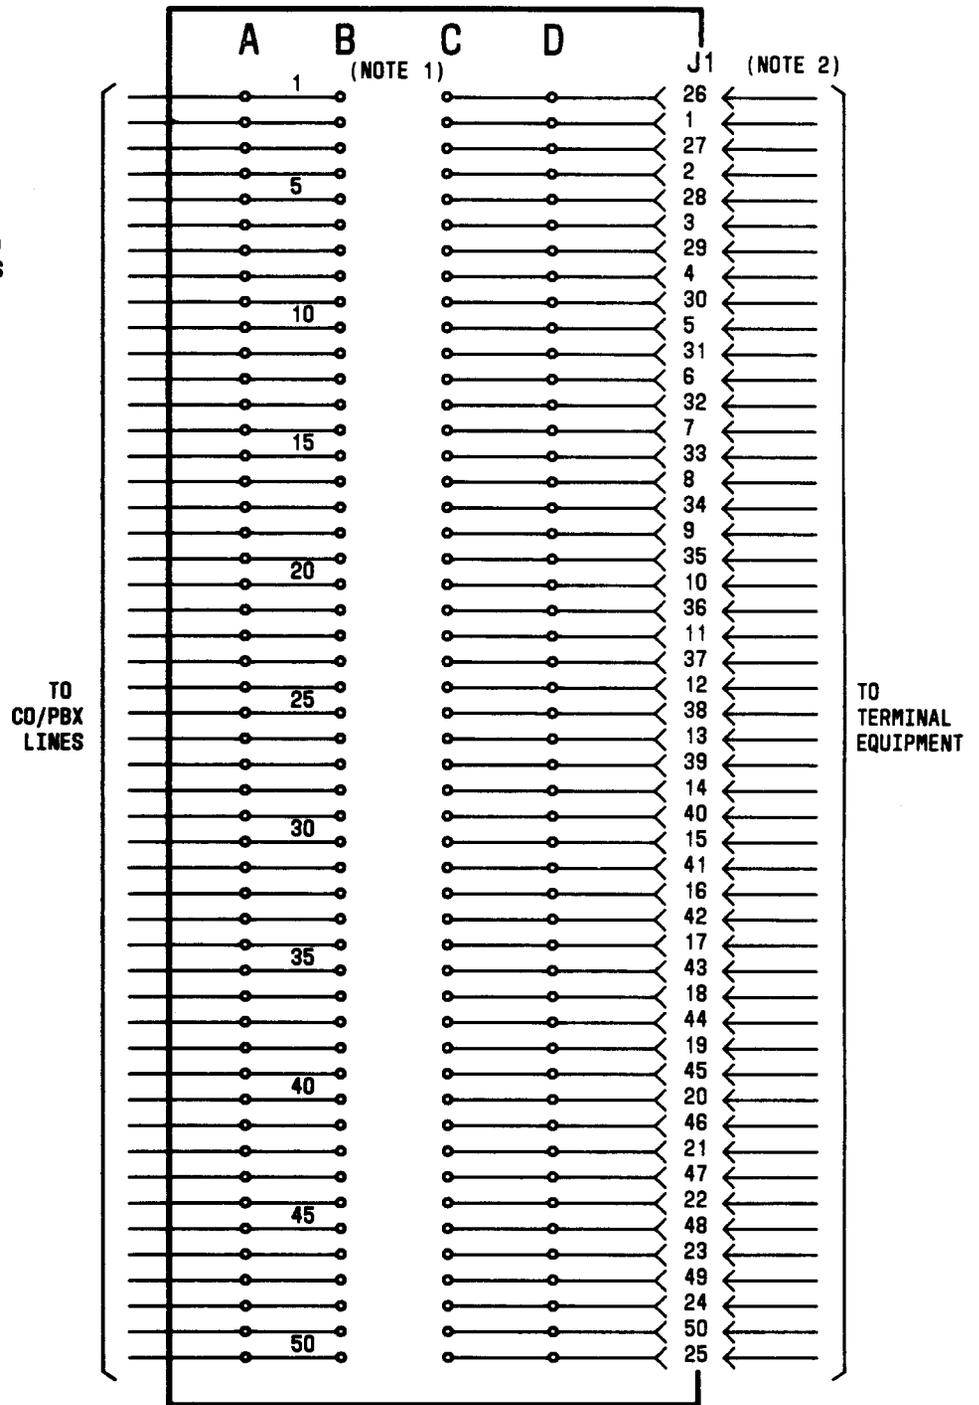

Fig. 7—Wiring of 700A-66-B1-25 Jack
- 2.05** ◆The 700A-66-B1-25 (Fig. 2) and the 700A-66-B1-25B jacks provide a 25-pair interface with one 50-pin miniature ribbon connector mounted on the side of a 66-type connecting block and using bridging clips for connect through option. The 700A-66-B1-25B jack comes with a 183C6 backboard. The 700A-66-B1-25 jack is not provided with a backboard. (For wiring, see Fig. 7.)◆